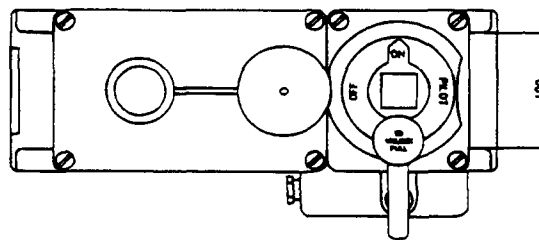

Figure 1
B. Remove grease drawer, raise pull button on safety valve handle and turn to OFF. Wait 5 minutes. Refer to Figure 1.